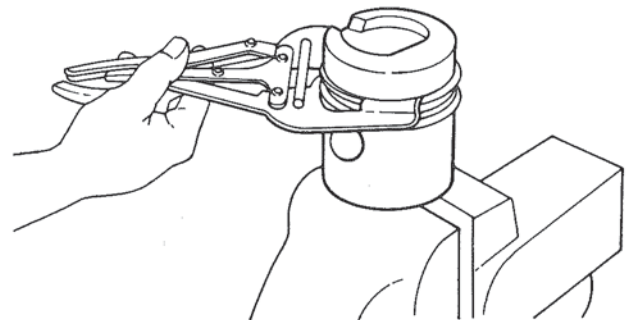

Figure 17. Removing Piston Rings.
- A. Remove piston rings, use ring remover (Special Tool No. MH060014). Figure 17.